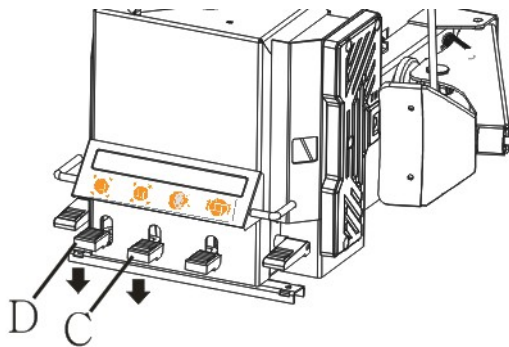

Fig. 14
- Place the tire on the clamps and press the rim firmly, now press pedal D (fig.14) fully.
- Place the tire on the clamps and press pedal C (fig. 14) to the clamps come out, the tire is now clamped.